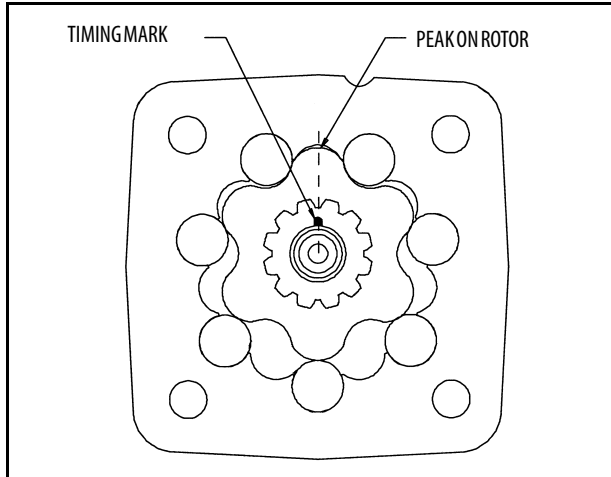

Figure 3-20. Timing Mark
11. Lower the rotor onto the drive link making sure the timing mark on the drive link is aligned with a peak on the rotor as shown in Figure 3-20., Timing Mark.